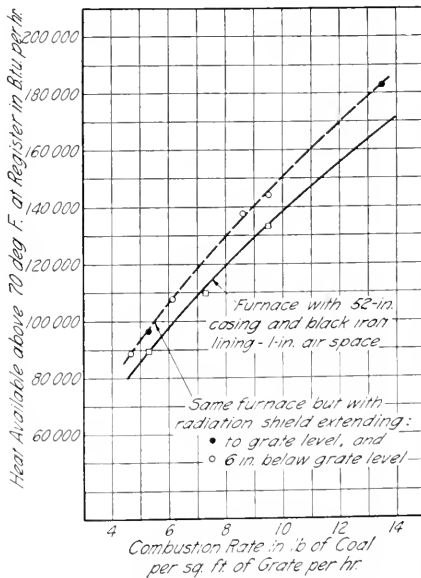

FIG. 7. HEAT AVAILABLE AT THE REGISTERS WITH RADIATION SHIELD
- (c) The actual heat available at the registers of the plant, Fig. 7, for any assumed rate of com-